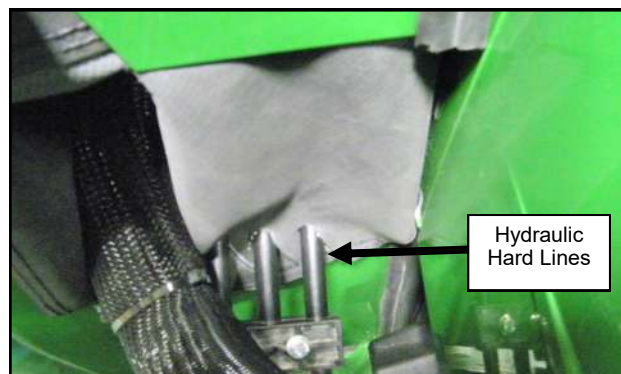

Fig. 19.3 (Front Filler around Hydraulic Lines)
- 19.3** Pull the three holes with slots around the hard lines, pull tight and align to the front face of the A-pillar and adhere the Velcro to the A-pillar below the hard lines. See Figure 19.3.